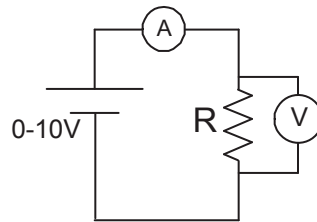

Figure 5.3: Current and voltage measurements for a single resistor.
- Connecting wires: Normally the wires going to the power supply and multimeters are color-coded red (R) and black (B) to correspond with the color coded terminals on the instruments. Jumper leads, which complete the circuit by connecting the various parts together, are not necessarily color-coded. Selecting a variety of colors for the jumpers may be helpful in keeping track of your wiring. Make all of the required connections by plugging components and leads into the designated places.
- The circuit to be connected is diagrammed in Figure 5.3. Connect the red terminal of the power supply to the red terminal of the ammeter (marked mA). From the black ammeter terminal (COM), connect to one end of the resistor. From the other end of the resistor run a wire to the black terminal of the power supply. Thus, current from the power supply must pass through both the ammeter and the resistor to complete its circuit back to the power supply. Try increasing the power supply voltage slightly, then back down to zero; you should see a corresponding variation in the current.